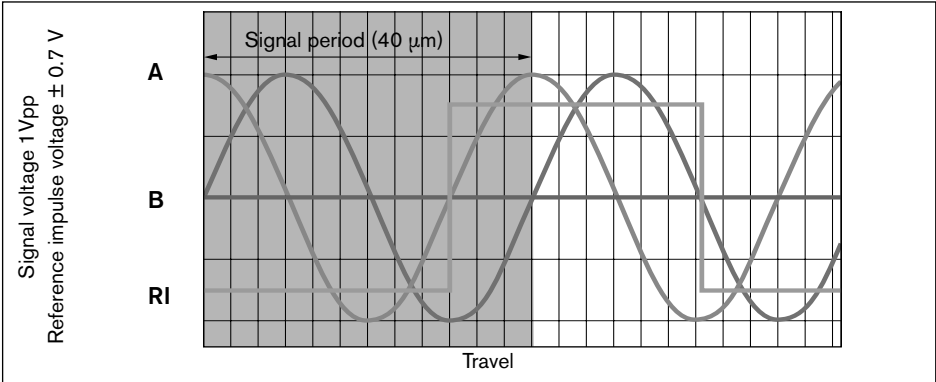

Fig. 13: Analog sinusoidal (I1)*)
*) Fig. 13 / 14: A, B and full differential RI for sensor motion in the positive counting direction.